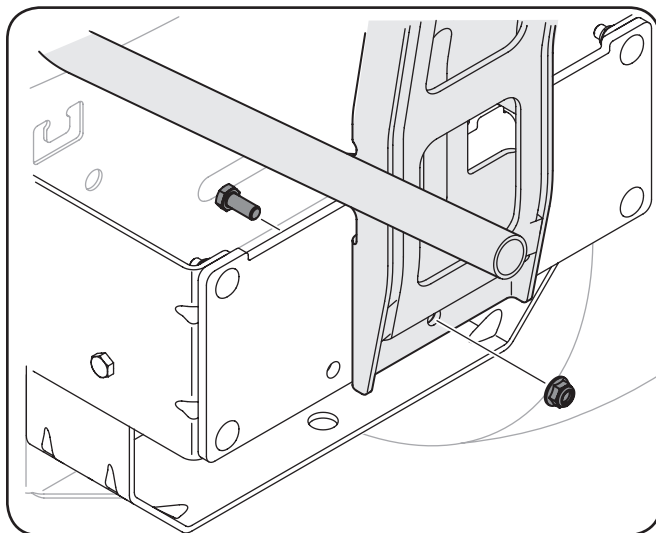

Figure 4-10
4. Secure the hanger assembly to the mounting assembly using a 5/16" bolt and flange nut provided. See Fig. 4-10.